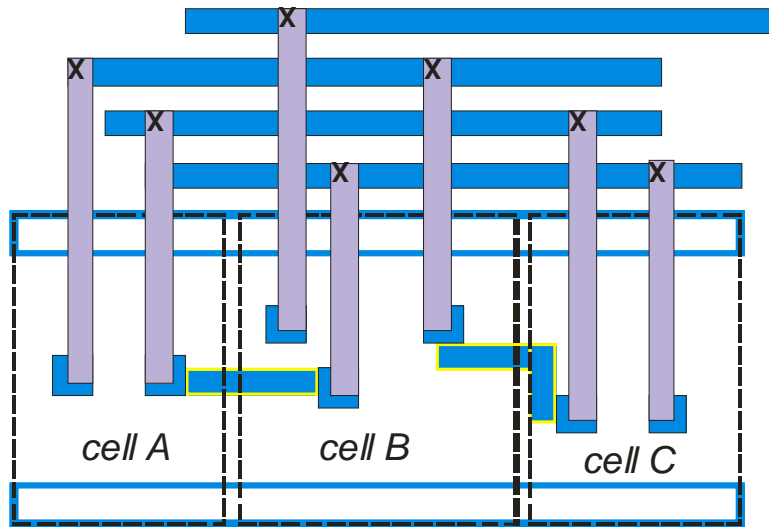

Figure 2: Inter-cell routing using vertical *metal2* and horizontal *metal1* traces. The dash-lined boxes represent primitive cell layouts.
Ports specify where connections between cells will be made. The best location for ports won't become obvious until you've had some experience routing multiple cells to each other. Figure 2 illustrates how inter-cell routing will be achieved. Here, routing between cells using vertical jumpers of *metal2* tied to horizontal runs of *metal1* above or below the cells, which will route the signal over (left or right) to the
proper cell. Alternatively, in some cases we will be able to place cells so that the output of one feeds directly into the input of the next cell, as illustrated in Figure 2 using blue bars with yellow outlines. In this case, *metal1* can be used to route the signal within the cell boundaries, provided there is no *metal1* within the cell blocking such routing. For adjacent cells with ports close to each other, *poly* can also be used to connect ports, but *poly* traces have a lot of resistance and must be kept very short (roughly no longer than the size of the cell)
1. Use *metal1* for ports: All ports in primitive cells should be made on *metal1* layer. Although ports can be made on *poly*, to follow the routing scheme shown in Figure 2, *metal1* will be needed so each signal can be routed through *metal2* (*metal2* can not make a direct connection to *poly*).